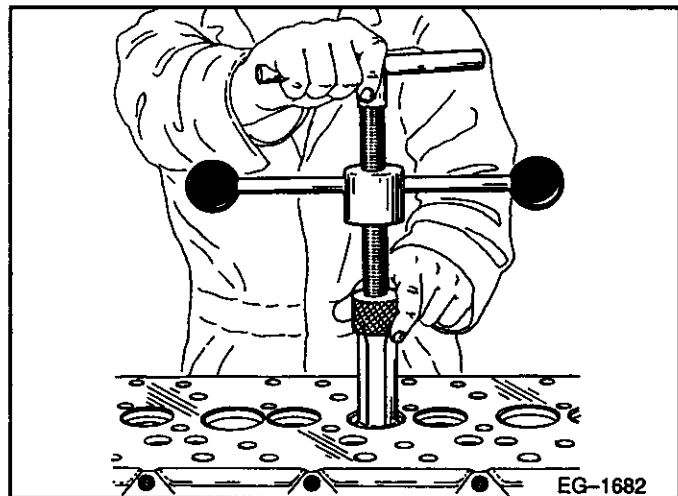

FIGURE 7-46
- c. Expand the pin collet by turning the small handle at the top of the bridge assembly. Refer to **FIGURE 7-46**.